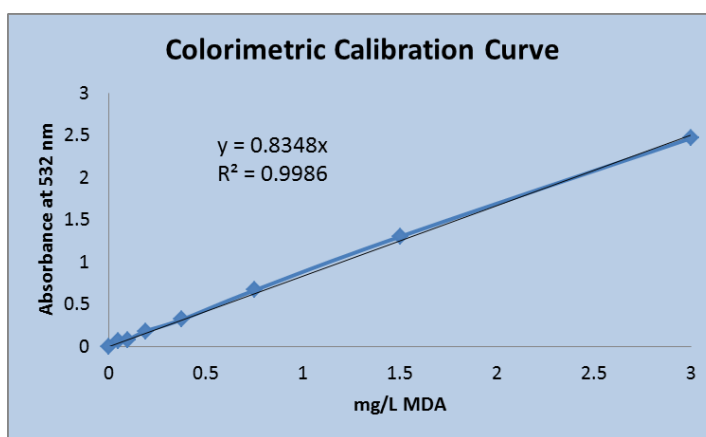

Figure 2: MDA Calibration Curve
2. Plot a standard curve using the absorbance value for each Standard versus the MDA concentration for each Standard. The equation of the line can be found using a linear fit method shown in **Figure 2**, on the following page.
EXAMPLE: Using the equation from the calibration curve shown in **Figure 2**.